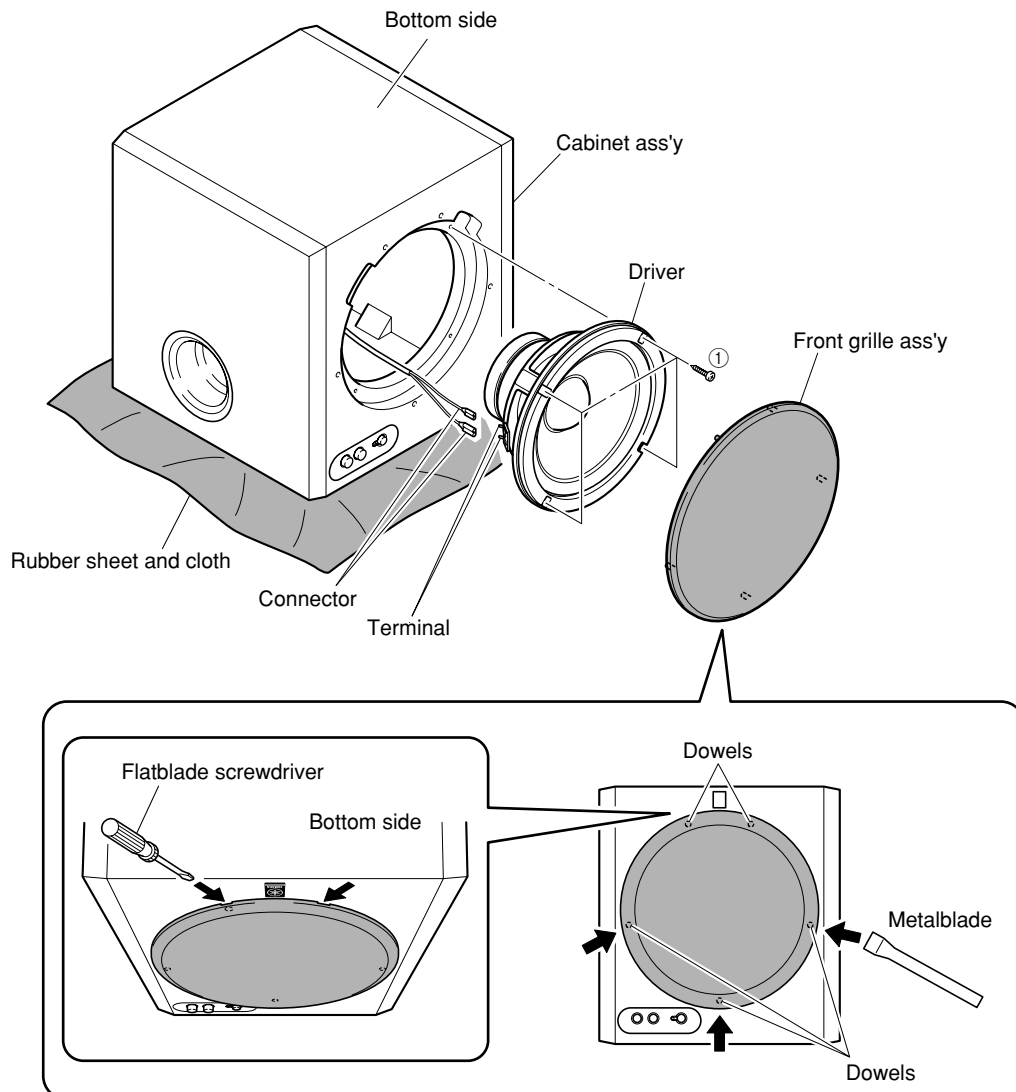

Fig. 1
- Using the flatblade screwdriver inserted in the gap between the front grille ass'y and the cabinet ass'y (bottom side first), push up the front grille ass'y. (Fig. 1)
- Remove the front grille ass'y by lifting a metalblade up. (Fig. 1)
- Remove 4 screws (①) and then remove the driver. (Fig. 1)
- Disconnect the connector connected to the terminal of the driver. (Fig. 1)
- 3) Connect the HOT side of the oscilloscope CH1 probe to the point A or B indicated in the figure and the GND side to the GND of the main unit. (Fig. 1)